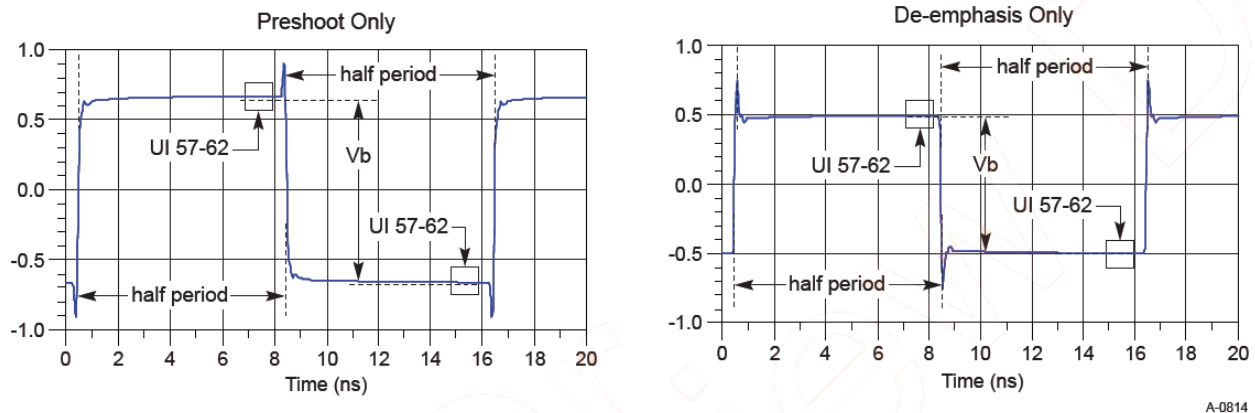

Figure 64 Waveform measurement points for preshoot and de-emphasis
8.0 GT/s, 16.0 GT/s and 32.0 GT/s PCIe signaling must support the full range of presets given in Table 8-1 (PCIe Base Specification Revision 5.0). Presets are defined in terms of ratios, relating the pre-cursor ( $V_c$ ) is referred to as pre-shoot, while the post-cursor ( $V_b$ ) is referred to as de-emphasis. This convention permits the specification to retain the existing 2.5 GT/s and 5.0 GT/s definitions for Tx equalization, where only de-emphasis is defined, and it allows preshoot and de-emphasis to be defined such that each is independent of the other. The tolerances in Table 8-1 (PCIe Base Specification Revision 5) also apply to 2.5 and 5.0 GT/s de-emphasis. The maximum swing,  $V_d$ , is also shown to illustrate that, when both  $c_{+1}$  and  $c_{-1}$  are nonzero, the swing of  $V_a$  does not reach the maximum as defined by  $V_d$ . The high frequency nature of PCIe signaling makes measurement of single UI pulse heights impractical. Consequently all amplitude measurements are made with low frequency waveforms as shown in Figure 64.